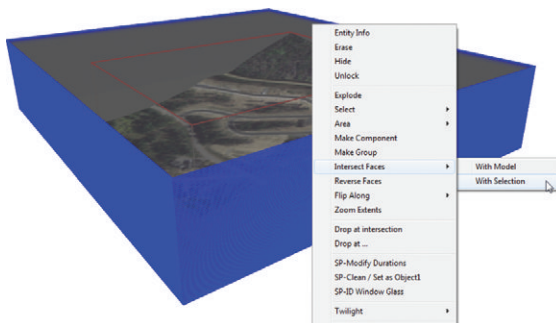

Figure 15.17 Selected rectangles
6. Select all of the rectangle slices and terrain. Right-click on the selection and choose Intersect Faces > With Selection (Figure 15.17). This draws all of the slices the rectangles make when they penetrate the 3D terrain, thereby creating topography lines.